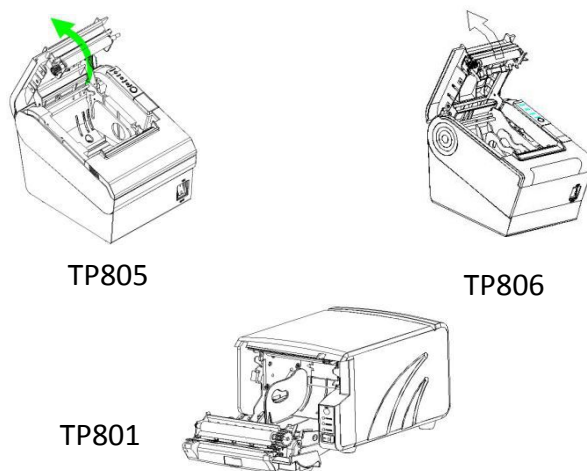

Figure 4.6.1
- 2) Pressing the open button, open the top cover of TP805\TP806 or front cover of TP801. (Like figure 4.6.1)